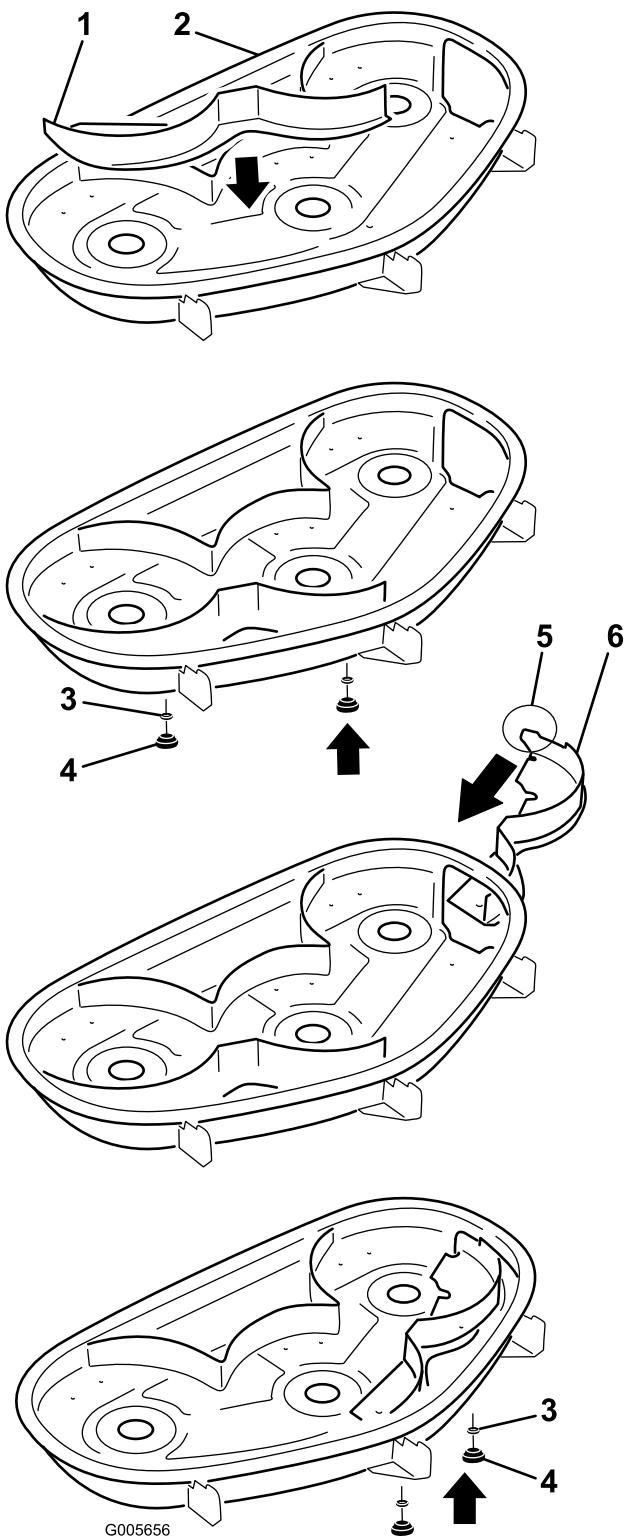
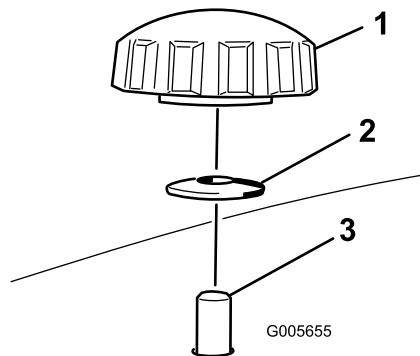

Figure 4
Figure 5
1. Locate the four holes in the mower where the baffle mounting studs will attach to the mower deck (Figure 4) and remove any fasteners from them.
2. Install the left baffle into the deck securing the studs on the baffle from the top of the mower using 2 knobs and curved washers (cupped side facing the mower) as shown in Figure 4 and Figure 5.
3. Slide the right baffle through the discharge opening and secure it using 2 knobs and curved washers (cupped side facing the mower) as shown in Figure 4 and Figure 5.